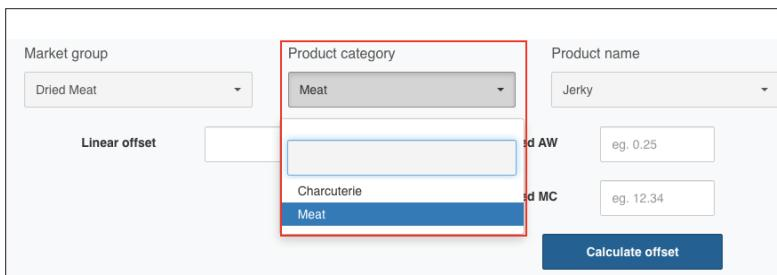

Figure 16 Product category
- Under Product name, select the product category that most closely matches the product being measured (Figure 16).